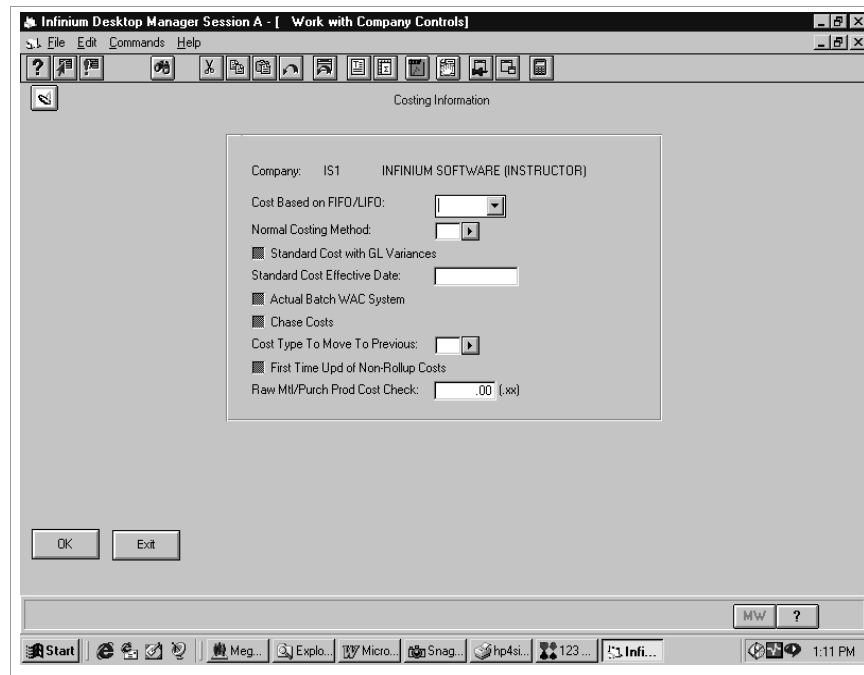

Figure 4-11: Work With Company Controls Costing Information screen
- 2 Press Enter. The system updates the base application information for the company and continues to the next Work with Company Controls screen, which is shown in Figure 4-11.